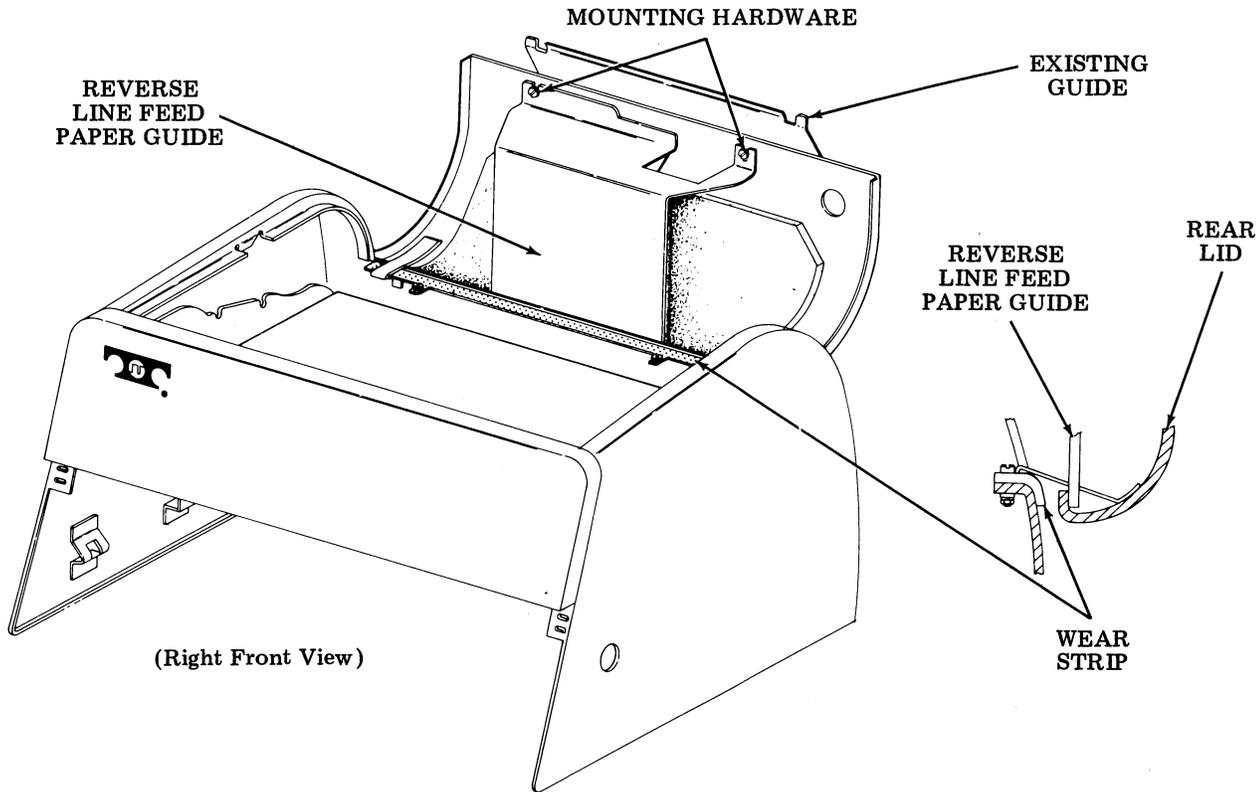
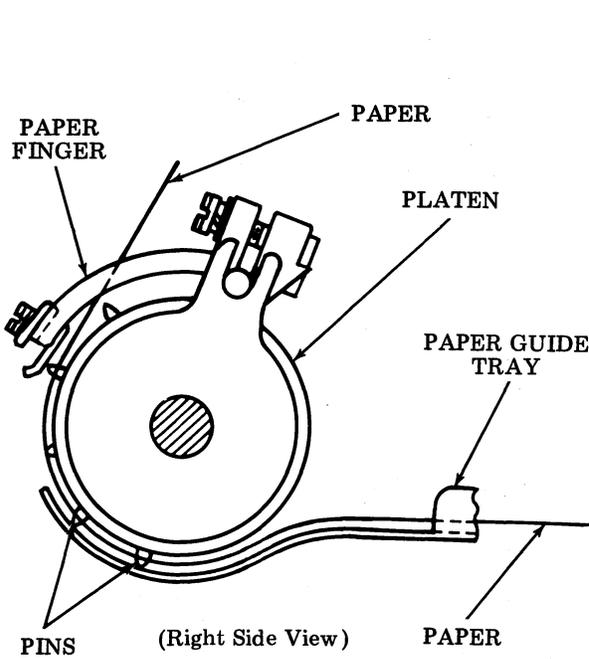

Figure 13 - Paper Guide and Wear Strip
Figure 15 - Paper Routing Assembly — Sprocket Feed
4.16 On sprocket feed typing units, remove the wear strip tied to the print position indicator. Install the wear strip to the rear of the cover assembly using the mounting hardware supplied with the wear strip (Figure 13).
4.17 On typing units equipped with reverse line feed, it is necessary to install a paper guide to the lid assembly. It is to be secured with the same mounting hardware as the existing guide (Figure 13).
4.21 When installing paper in sprocket feed typing units, feed the paper through the slot in the cover between the wear strip and the rear lid (Figure 13). Route the paper over the paper tray under the paper-out lever, and under the platen (Figure 15). Depress the paper finger release lever on the right side plate of the typing unit. Position the print carriage at a point in the middle of the platen to prevent the paper from